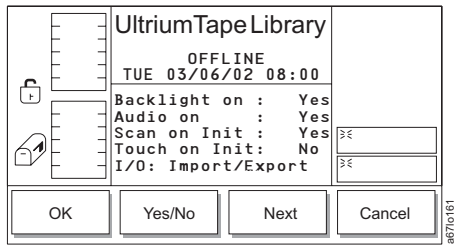

Figure 14-49. Config Dialog
3. Press the button below the **Config** softkey. The Config Dialog displays (see Figure 14-49) with the following information:
- If the button beneath the **Next** softkey is pressed, the Config Dialog is displayed (Figure 14-49 on page 14-48).